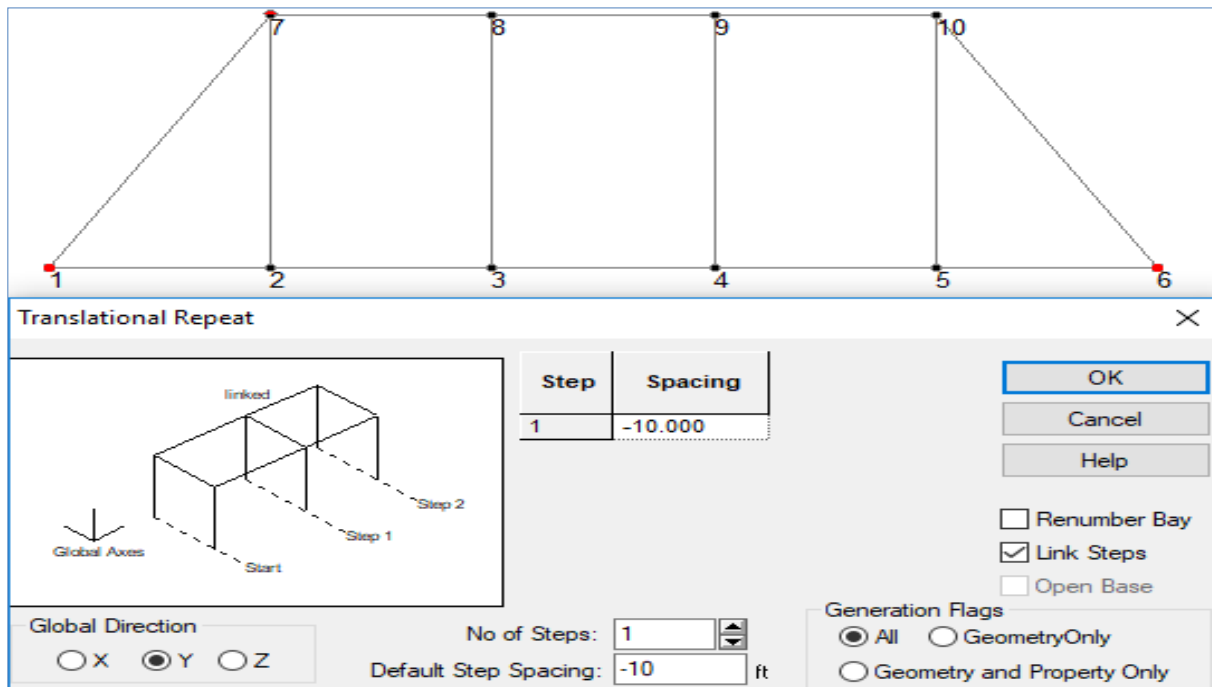

Fig: 4.22
- 1.4 Now Select the Nodes 1 & 6 (in View window) by using node cursor → Translational Repeat → Global Direction =Y → No. of Steps = 1 → Spacing= -15 (-ve) → Click on Link Steps → OK (Fig: 4.22). For 3D select the whole structure by using beam cursor → Translational Repeat → Global Direction =Z → No. of Steps = 1 → Spacing= 20 → Click on Link Steps → OK